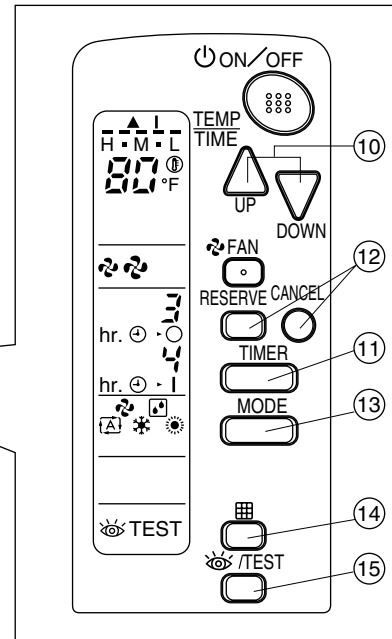

Fig. 1-2
- Fig. 1-2 shows the remote controller with the front cover opened.